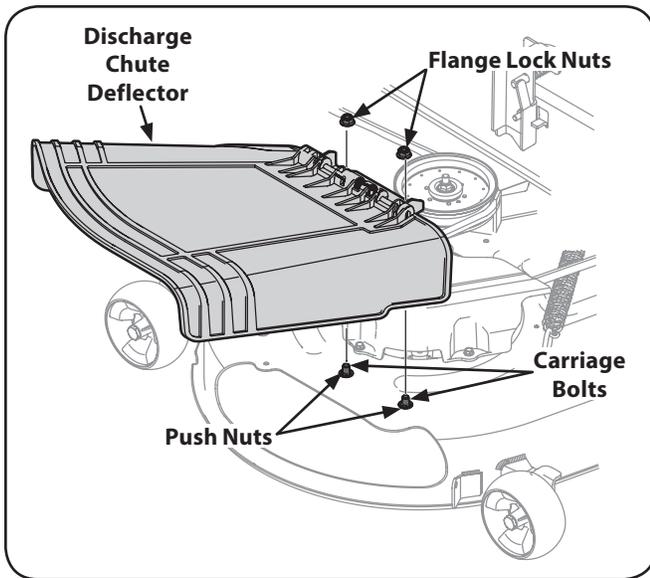

Figure 3-3
3. Install the discharge chute deflector using the carriage bolts, push nuts and flange lock nuts as shown in Figure 3-3 and securely tighten the hardware.